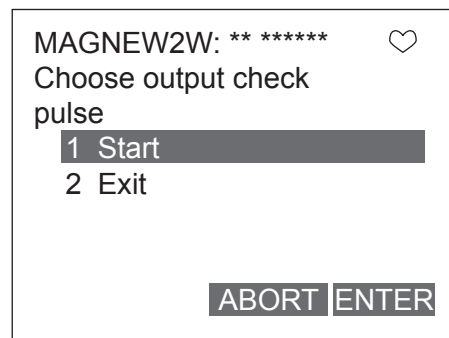

Fig. 7-69.
3. Fig. 7-69. will then appears. Connect the device to measure excitation current to the both ends of the excitation check pin and then press F4 (OK).